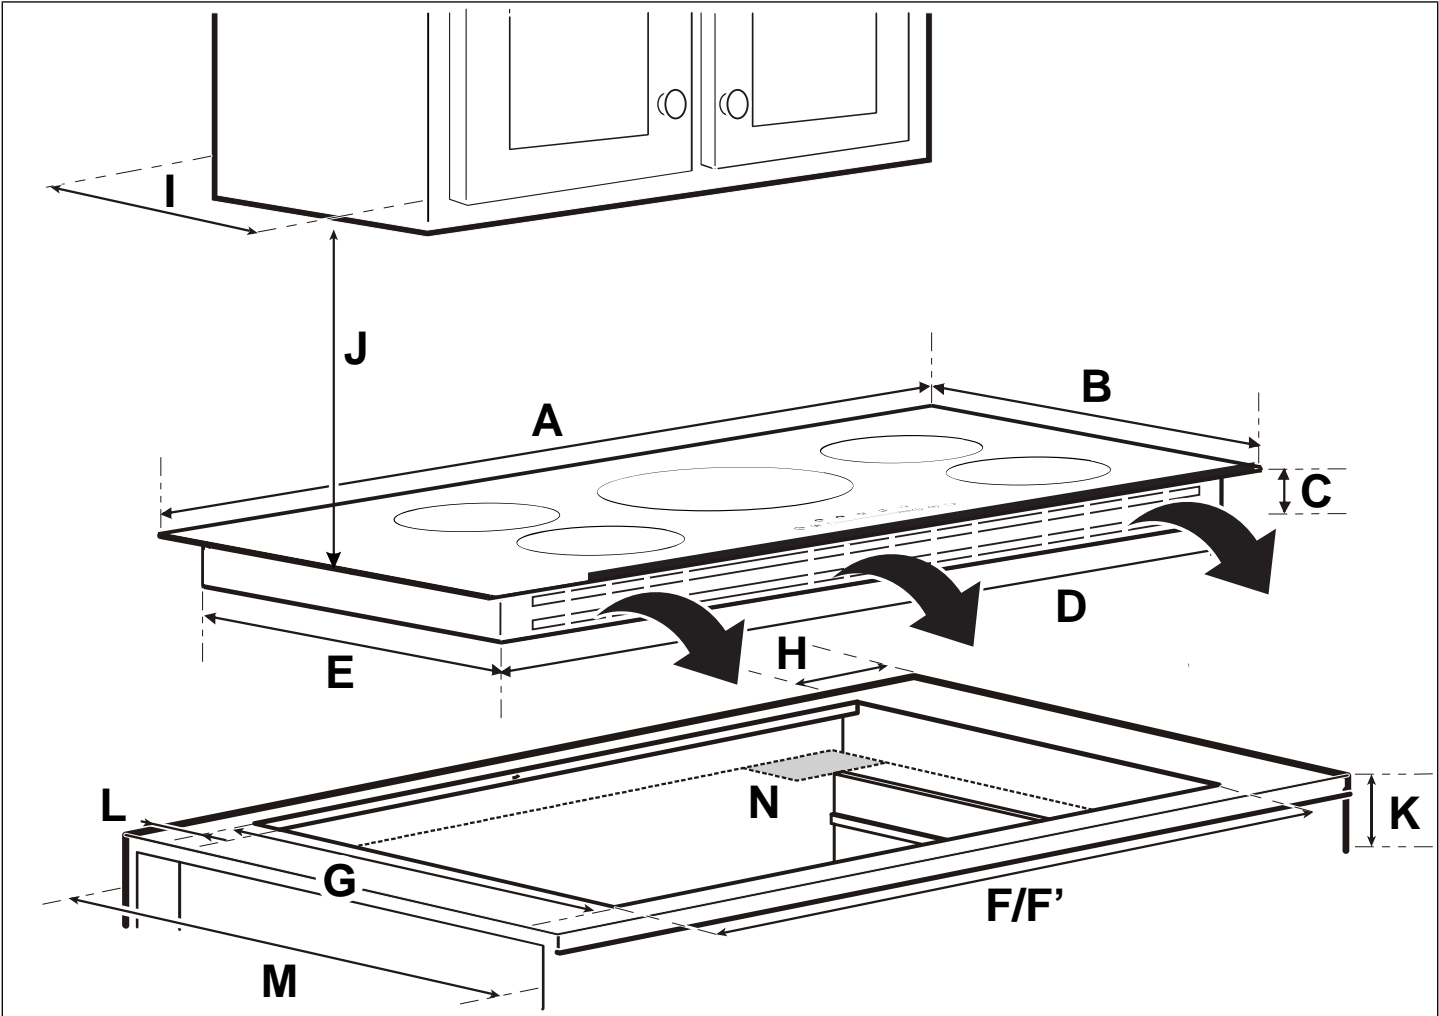

Fig. 4
- If panel is present, a square must be opened to route the armored cable as shown in (N) in Fig. 4